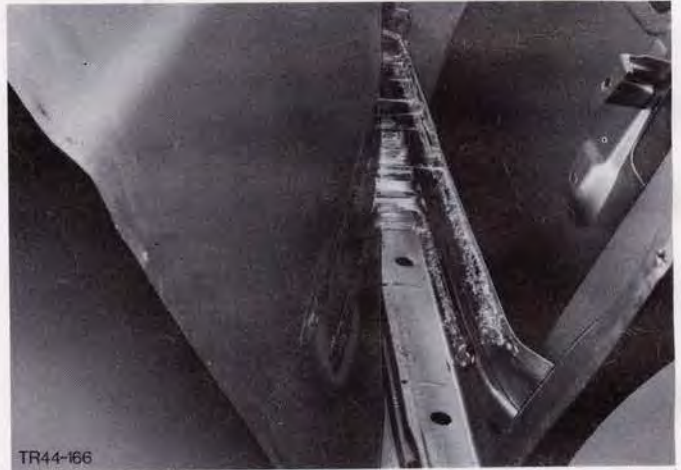

Fig.109. Heat outer door panel and remove from bonded connection to brace.
14. Separate door outer panel from inner panel, by heating outer panel and removing from bonded connection to brace, Fig. 109.